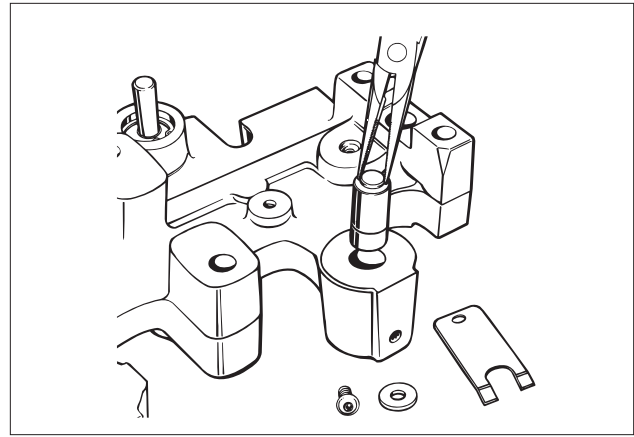

FIG. 38
2. Remove the master piston from its bore using needle-nose pliers. If binding occurs, check for burrs or contaminants in the lube oil. Clean in an approved cleaning solvent (Fig. 38).